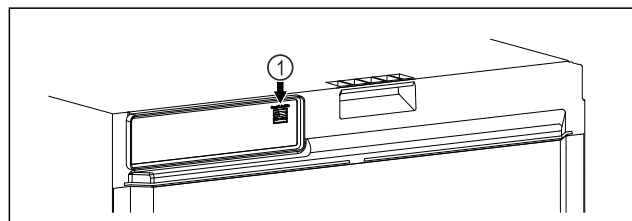

Fig. 113
- SmartModule Fig. 113 (1) has been inserted.